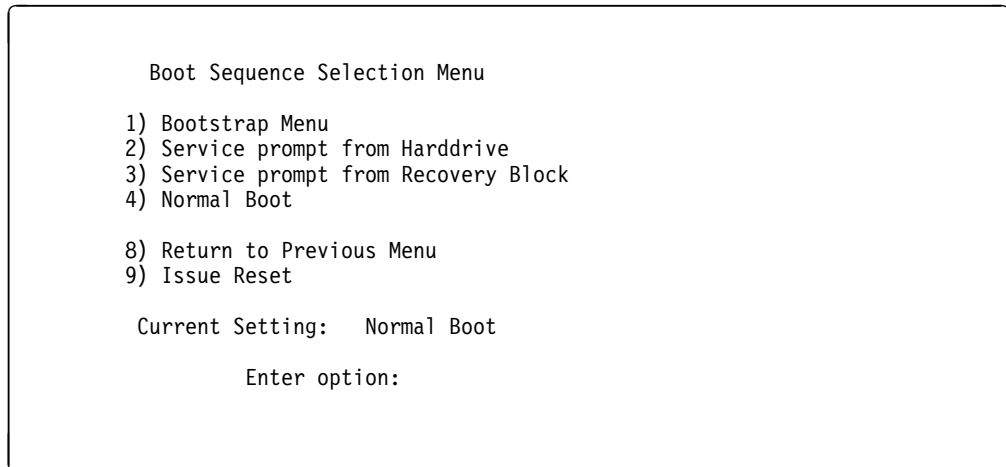

Figure 4-10. Boot Sequence Selection Menu
2. The Boot Sequence Selection Menu is displayed as shown in Figure 4-10.